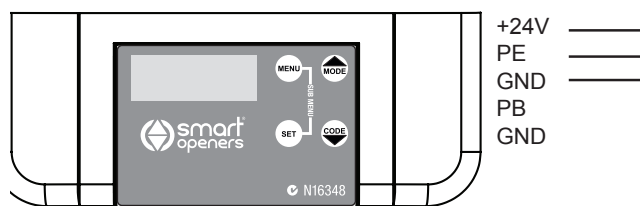

Fig. 37
- 1 Connect PE beam cable to controller terminal black as per Fig. 37.